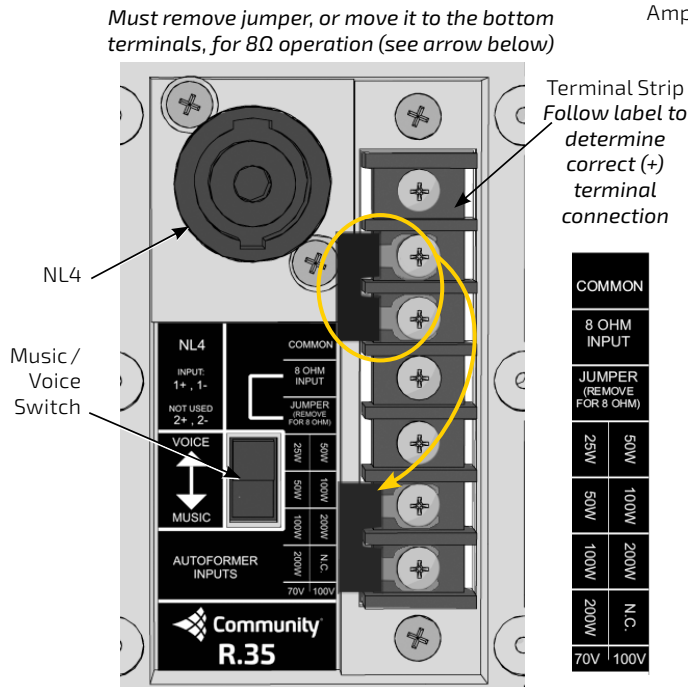

Figure 5. R.35 input panel
6. Insert the cable through the gland nut and weather cover and wire the unit for your system voltage. Refer to the label – see **Figure 5**. There is a preinstalled jumper that should be left in the marked position for 70/100V use, or moved to the bottom terminals for 8Ω operation. *Failure to do so can result in damage to the loudspeaker and/or amplifier.* Set the Music/Voice switch to the desired position. *The NL4 connection can only be used for low impedance 8Ω operation.*